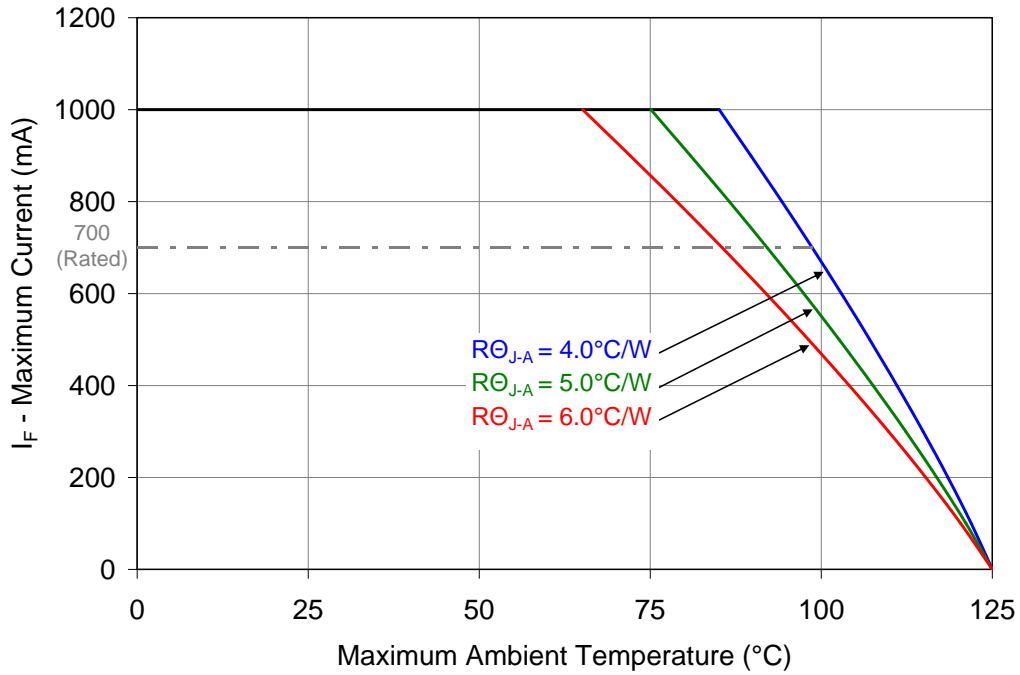

Figure 11: Maximum forward current vs. ambient temperature based on  $T_{J(\text{MAX})} = 125^\circ\text{C}$ .
- Maximum DC forward current (per die) is determined by the overall thermal resistance and ambient temperature. Follow the curves in Figure 11 for current derating.
### Notes for Figure 11: